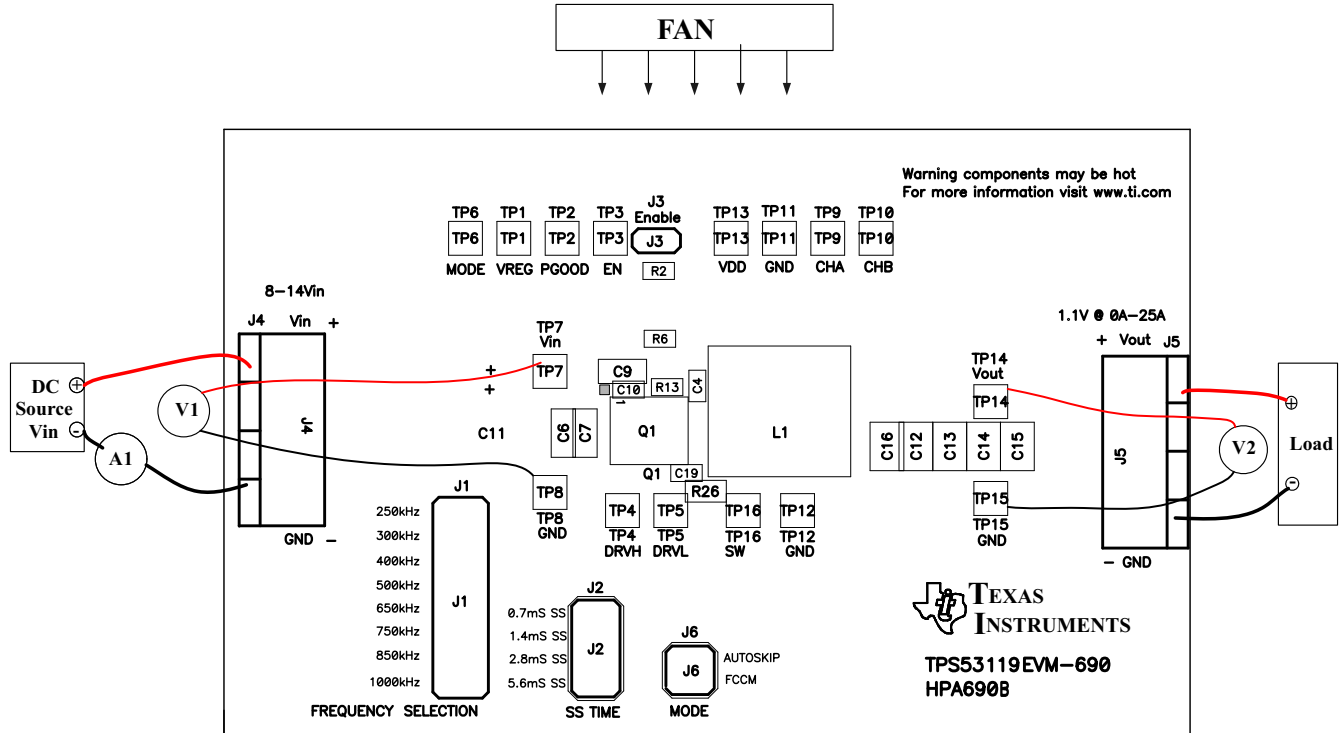

Figure 5-2. TPS53119EVM-690 Recommended Test Setup
Voltage Source: The input voltage source V_{IN} must be a 0-V to 14-V variable DC source capable of supplying 10 A_{DC}. Connect VIN to J4 as shown in Figure 5-2.
Figure 5-2 is the recommended test setup to evaluate the TPS53119EVM-690. Working at an ESD workstation, make sure that any wrist straps, bootstraps, or mats are connected referencing the user to earth ground before power is applied to the EVM.
1. Prior to connecting the dc input source V_{IN} , it is advisable to limit the source current from V_{IN} to 10 A maximum. Ensure that V_{IN} is initially set to 0 V and connected as shown in Figure 5-2.
Place a fan as shown in Figure 5-2 and turn it on, ensuring that air is flowing across the EVM.
1. Set up the EVM as described in Section 5 and Figure 5-2.